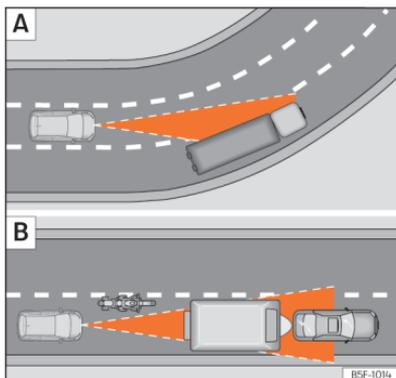

Fig. 106 **A** Vehicle on a bend. **B** Motorcyclist ahead, out of range of the radar sensor.
The ACC may not detect the vehicle in front on a curve, or may regulate the distance from vehicles in other lanes >>> Fig. 106 **A**.
- Vehicles that are not aligned while driving or that are outside the sensor's detection area, such as motorcycles >>> Fig. 106 **B**.